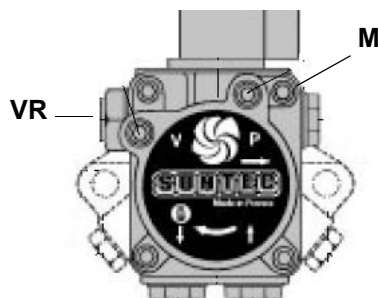
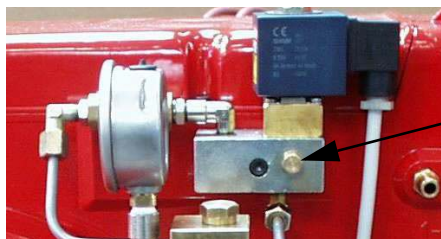

Fig. 17
Fig. 18
- 6 the nozzle supply pressure is already factory-set and must not be changed. Only if necessary, adjust the supply pressure as follows (see related paragraph); insert a pressure gauge into the port shown on Fig. 17 and act on the pump adjusting screw **VR** (see Fig. 18) as to get the nozzle pressure at 20bar (see table on page 23).